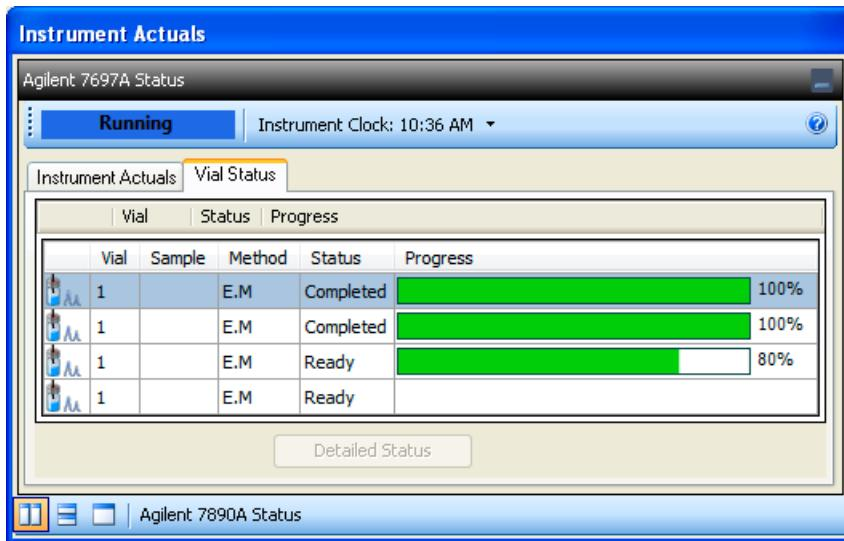

Figure 28 The Agilent 7697A Status > Vial Status panel
- 3 To view the **Agilent 7697A Status > Vial Status** panel, select the **Vial Status** tab (Figure 28).